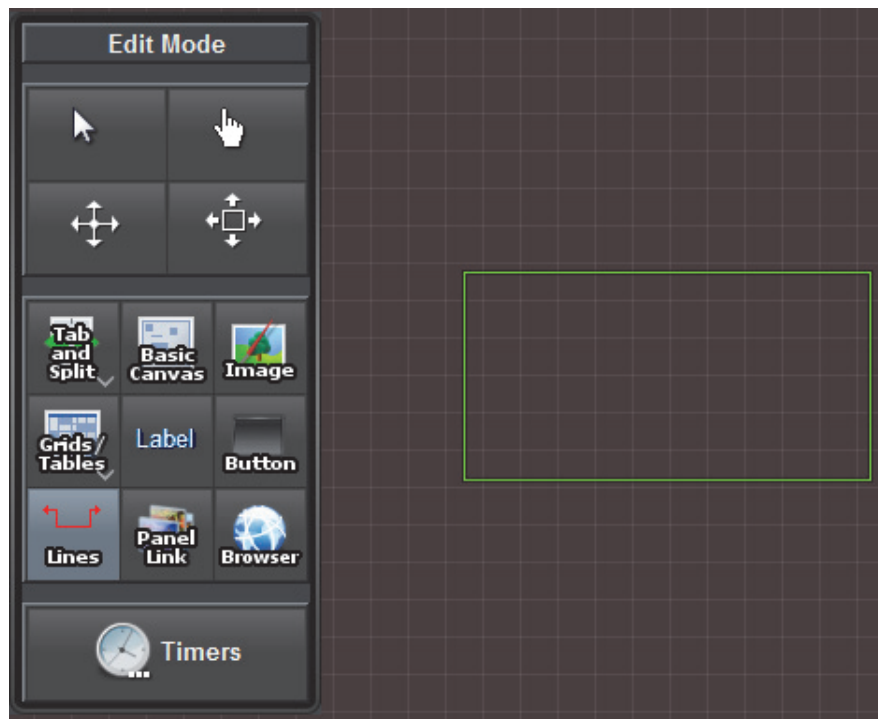

Figure 5.12 - Adding a Component (with **Lines** button selected, dragging to define line boundaries)
3. On the **CustomPanel**, click and drag to specify the area of the new component (**Figure 5.12**).